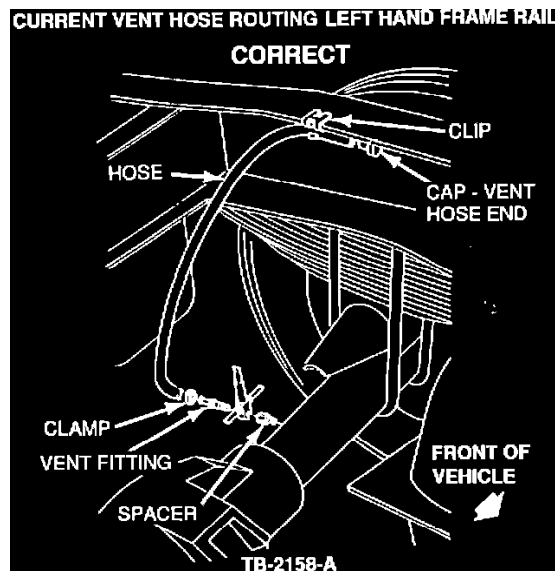
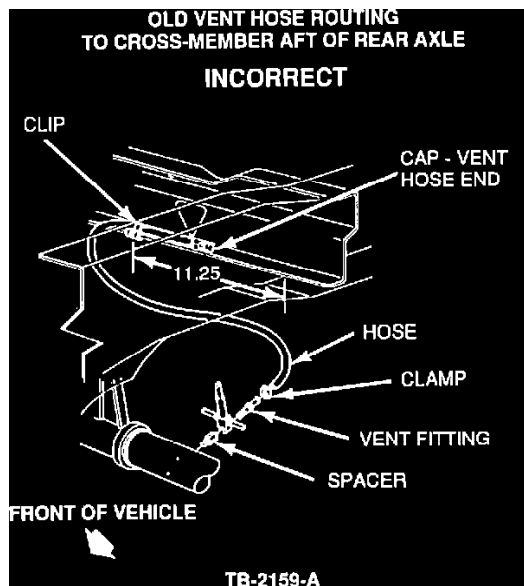

Figure 1
Figure 2
**ACTION:** Check the location of the rear axle vent hose routing which is identical for F-150/250/350 and Bronco Light Trucks. The rear axle vent hoses are mounted on the left hand frame rail (driver's side). This location provides better protection against water entering the axle through the vent hose. Refer to Figure 1; Correct Vent Hose Routing. Previously, vehicles with aft fuel tanks were equipped with the vent hose mounted on the aft axle cross member. This routing has been discontinued. Refer to Figure 2; Incorrect Vent Hose Routing.